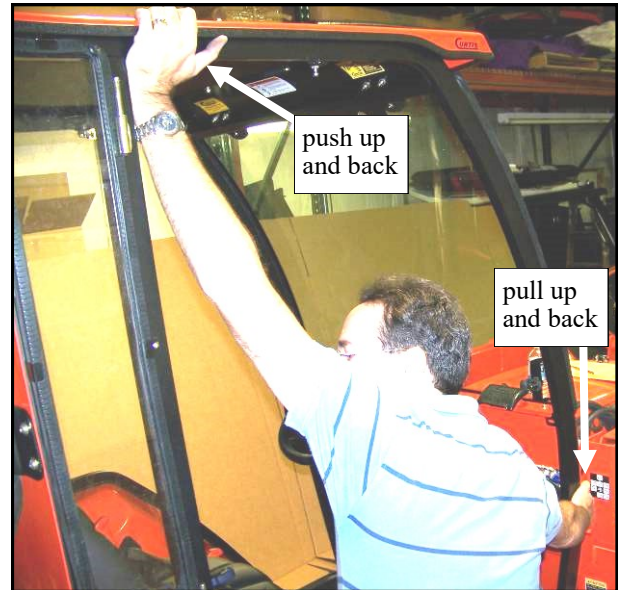
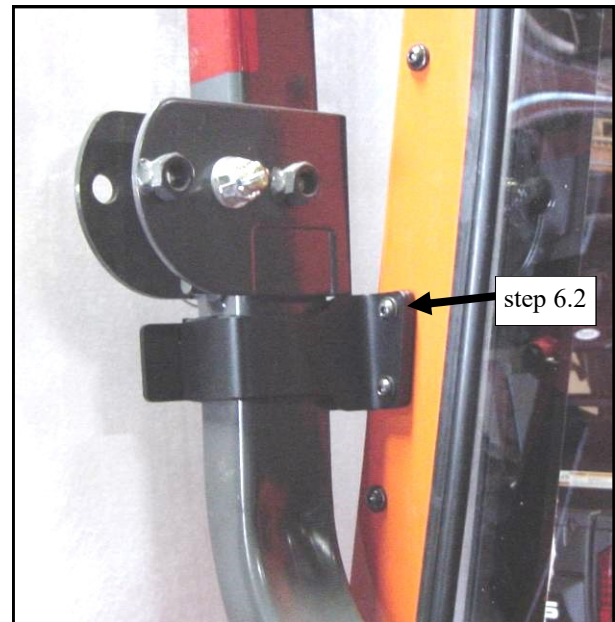

Fig. 6.2 (view of right side of tractor)
Fig. 6.2a (view of left side of tractor)
6.2 See page 17 for left versus right hand parts. If installing a standard cab, have an assistant lift up on the back of the side frames (see fig. 6.2) and pull the front back when installing the roll bar brackets. This will keep the cab from sagging towards the back and rotating forward which can create an interference with the loader mounting brackets. Per figure 6.2a, install the lower roll bar brackets using the following hardware per side of the tractor: two 5/16 x 1-1/4" long button head bolts, two steel washers and two flange locknuts. The bolt heads should be towards the front of the vehicle (especially for soft rear curtain applications). Note: the photo shows a hard rear panel in place. A standard cab bolts up the same way but with one less thickness of sheet metal to sandwich. Do not tighten the bolts.